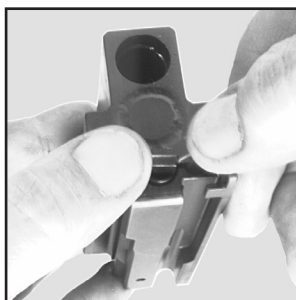

Fig. 27
3. Remove firing pin assembly and firing pin spring to the rear. To do this, push the locking catch to the right (Fig. 27). Prevent the firing pin assembly with firing pin spring from springing out with your thumb.